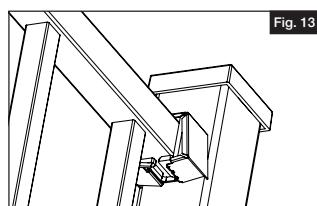
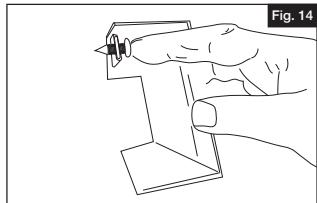
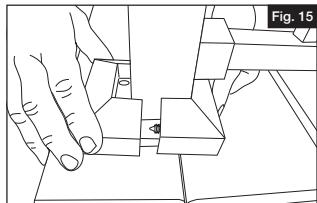

Fig. 13
Fig. 14
Fig. 15
- b. First hook the solid strip (left side) of the clip into the underside of the support. Press the cover from the sides until the three-finger strip snaps into the bottom of the holder (Fig. 13).
Separate the two bracket halves at all rail ends. Install the post half of each mounting bracket at the marks made in step 3 (Fig. 13) ensuring all brackets are properly oriented. Now set the panel back into place and re-attach the bracket halves (Fig. 14). Hide the post flange (Fig. 15).